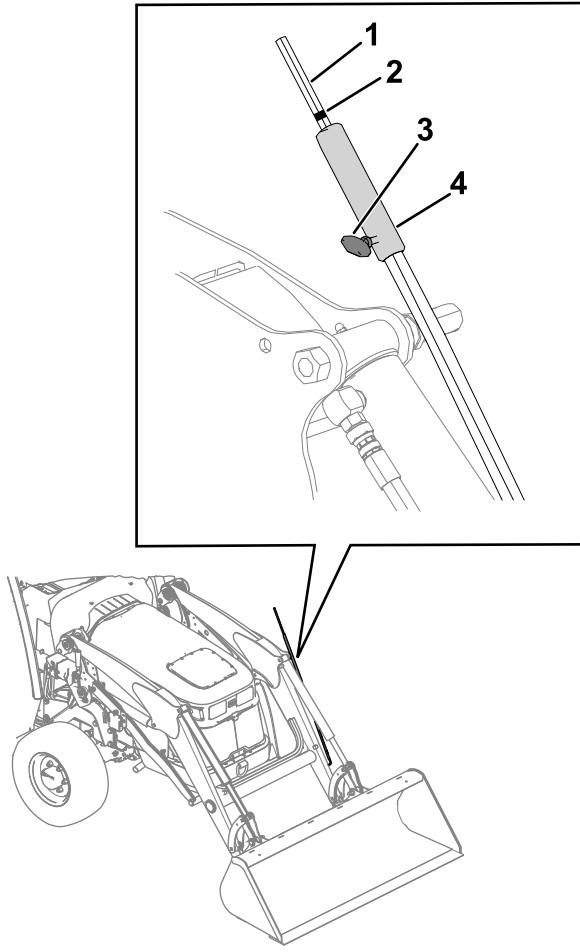

Figure 60
While you operate the loader, use the attachment-level indicator (Figure 60) to note the position of the attachment from the operator's position. You can adjust the indicator for use with different attachments:
2. Adjust the attachment-level indicator (Figure 60) so that it is distinguishable from the operator's position.